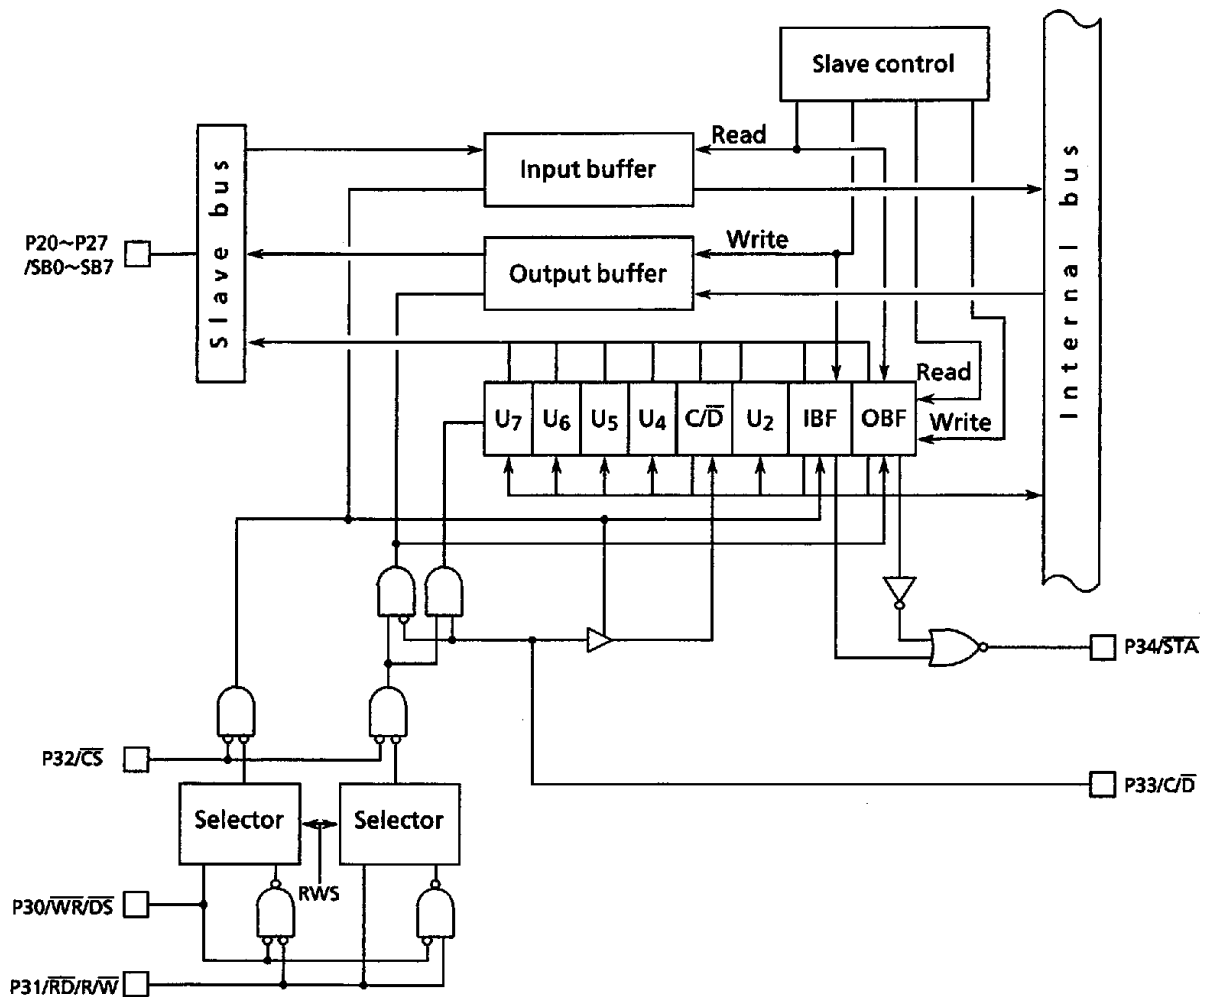

Figure 3.12 (1) Slave Bus Interface Block Diagram
The slave bus interface block diagram is shown in Figure 3.12 (1).